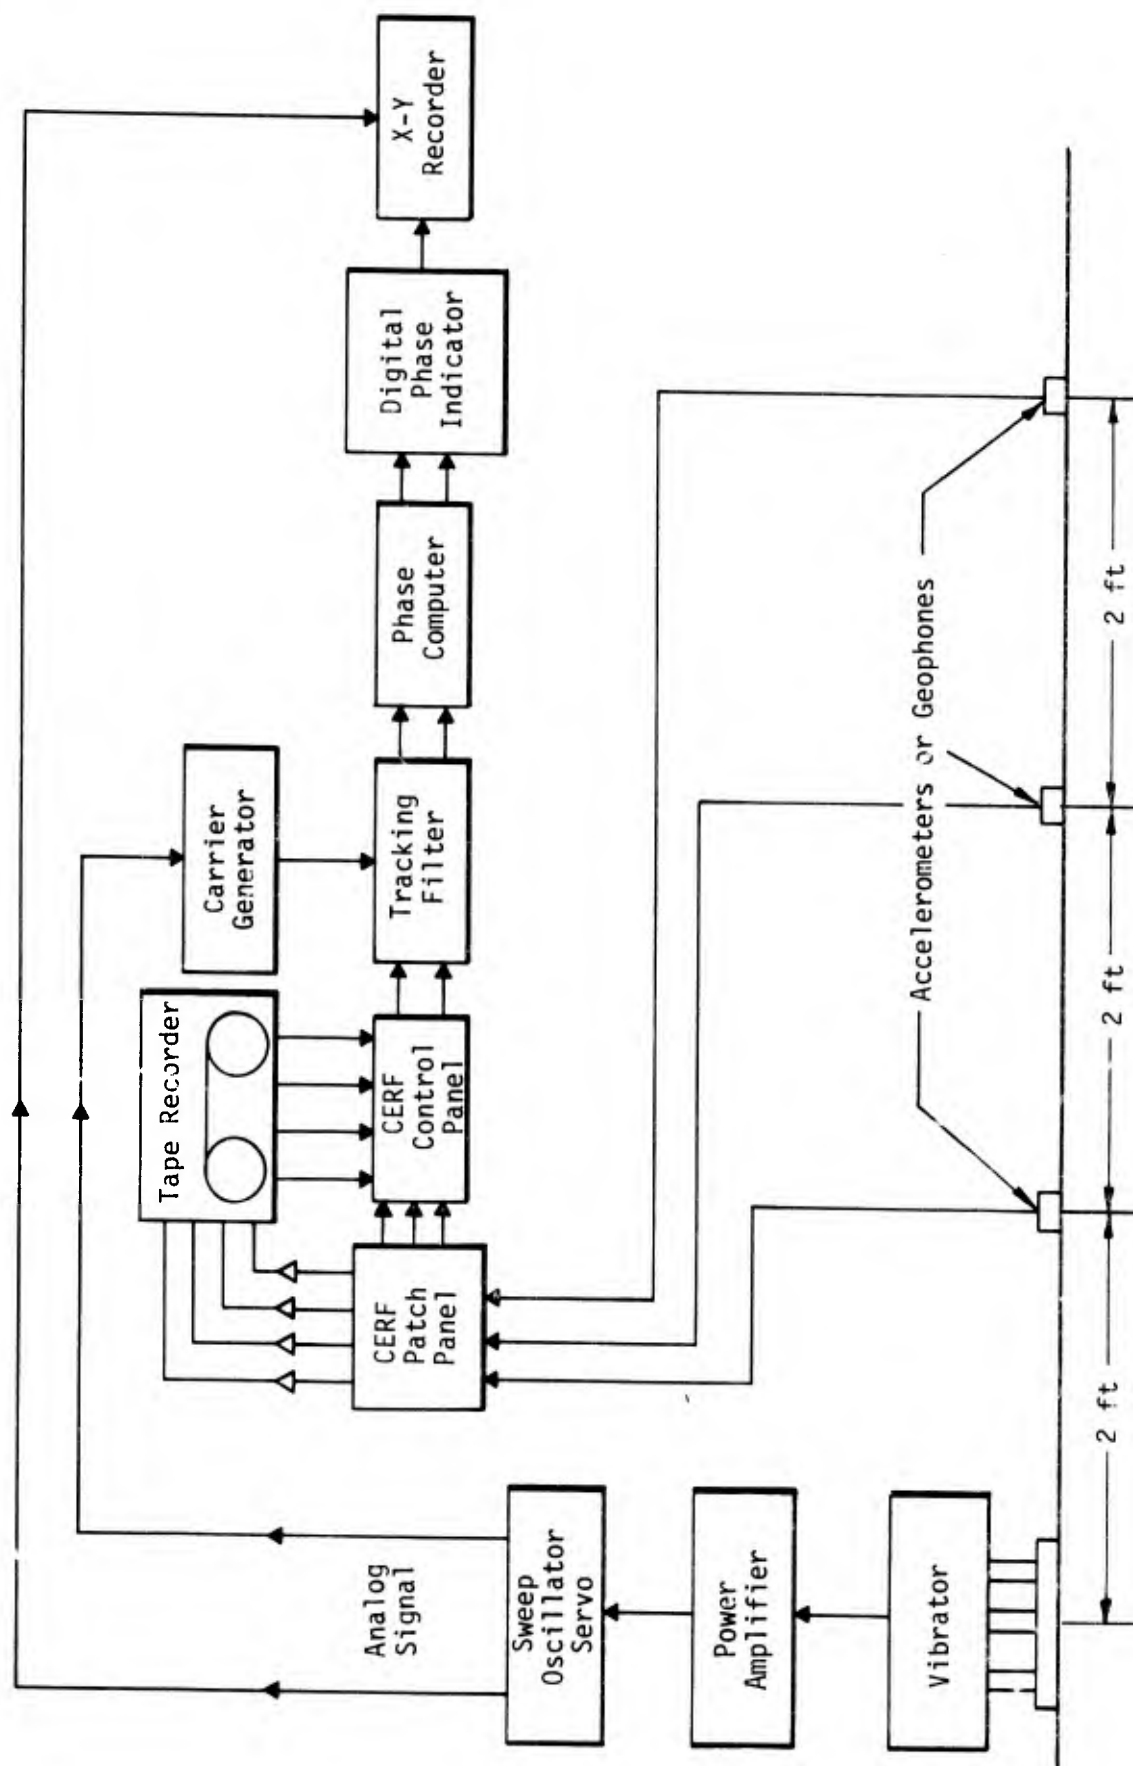

Figure 10. Wave Propagation (Phase/Frequency) and Deflection Basin Test Setup
To perform wave propagation tests, six accelerometers are glued onto the pavement surface with rapid-setting epoxy. The vibrator is operated in one of two modes: (1) manual mode--the force output is not controlled but is limited to a maximum value of 1000 lb; (2) servomode--the force output is controlled. The test consists of measuring the phase difference between two accelerometers at different distances from the vibrator baseplate as the frequency is varied with the load held constant. The test setup is shown in figure 10.
- (1) After the vibrator has been positioned for the test, locate the positions of the six accelerometers by measuring from the center of the vibrator baseplate and marking the spacing (i.e., 2, 4, and 6 ft).
- (6) Warm up the vibrator and power amplifier systems for a minimum of 30 min.
- (7) Ensure that all calibrations for the equipment shown in figure 10 have been performed.
- (8) Press the following buttons on the control panel:
- (9) Set the following switches to the indicated positions on the sweep oscillator servo: